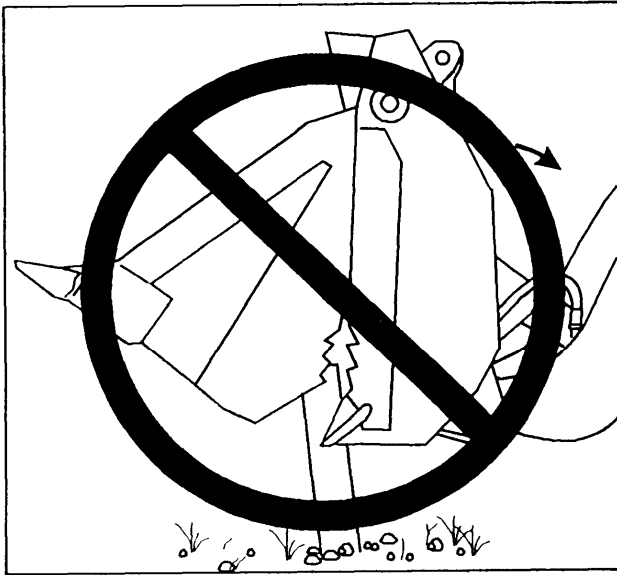

Figure 9-28.—Removing buried objects using the clamshell by rolling back the bucket.
**Do NOT** use the rollback as a force to pull stumps or buried objects from the ground, because this may bend the clamshell (fig. 9-28).